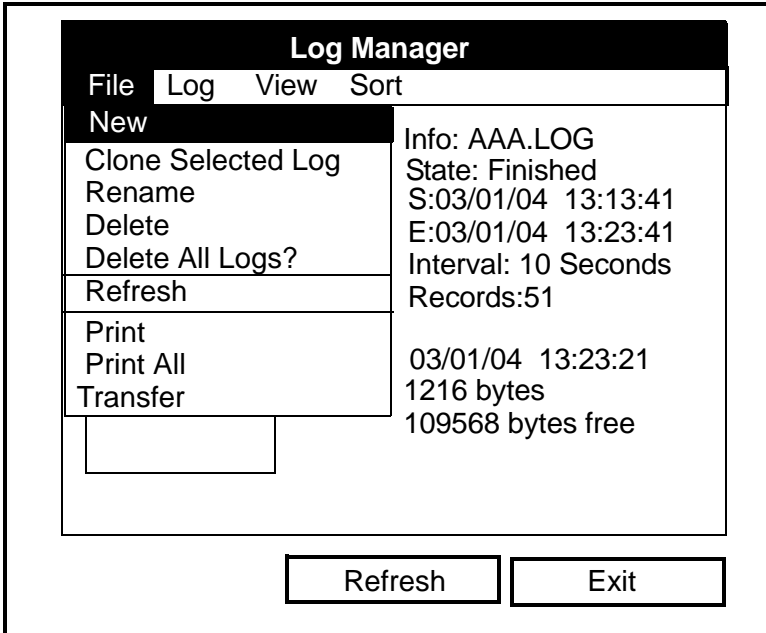

Figure 8-3: File Menu in the Log Manager
The File Menu allows you, not only to create new logs, but also to copy, rename or delete logs, as well as to print them or transfer them to a PC. To open the File menu from the Log Manager, press the [MENU] key and then [ENTER]. The screen appears similar to Figure 8-3 below.
- by scrolling to the New option in the File menu of the Log Manager (as shown in Figure 8-3 on page 8-4) and pressing [ENTER].
1. First, select the log you wish to copy in the Log Manager (shown in Figure 8-3 on page 8-4).
1. First, select the log you wish to rename in the Log Manager (shown in Figure 8-3 on page 8-4).
1. First, select the log you wish to delete in the Log Manager (shown in Figure 8-3 on page 8-4).